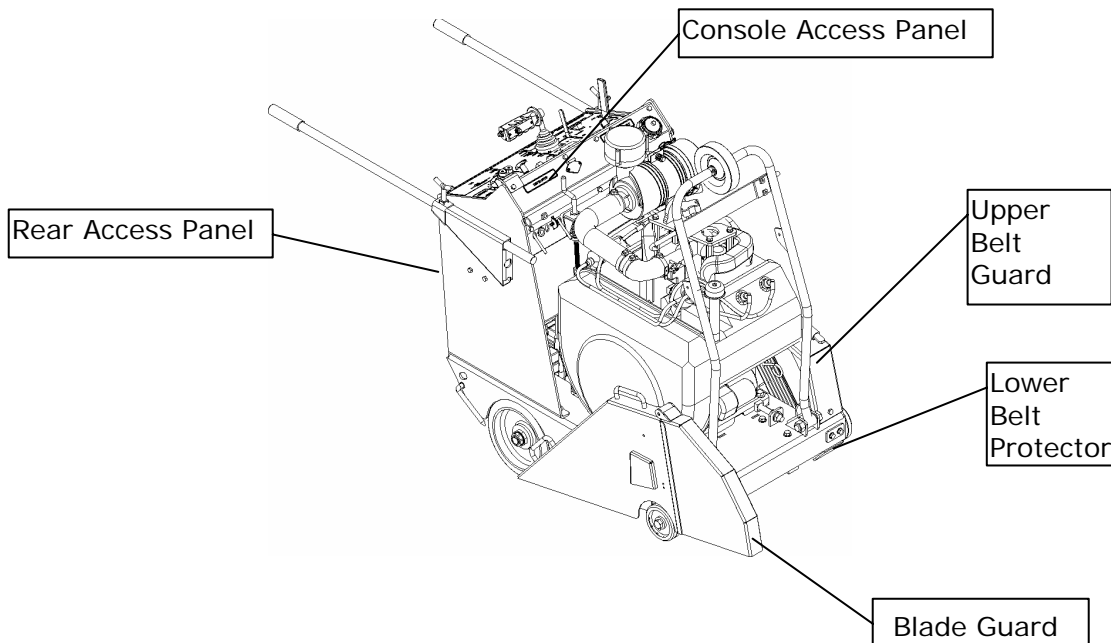

Fig. 26 — Guards and Panels
1. Remove the Upper Belt Guard (see Fig. 26).
1. Remove the Upper and Lower Belt Guards. See Figs. 26 & 29.
1. Remove the Belt Guards (see Figs. 26 & 29).